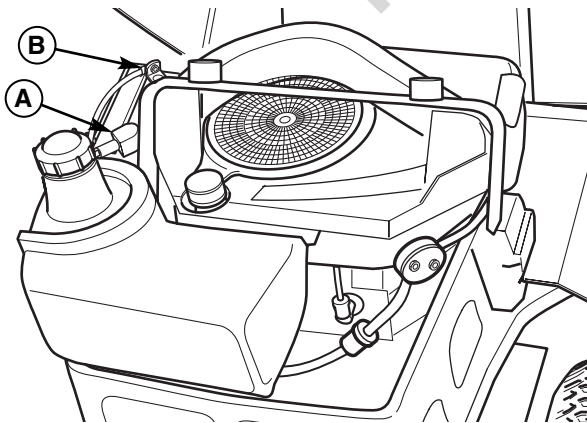

Figure 25. Engine Compartment
1. Disconnect the cables from the battery, negative cable first (B, Figure 25).
6. Reattach the battery cables: first attach the positive cable (see A, Figure 25), then attach the negative cable (B).